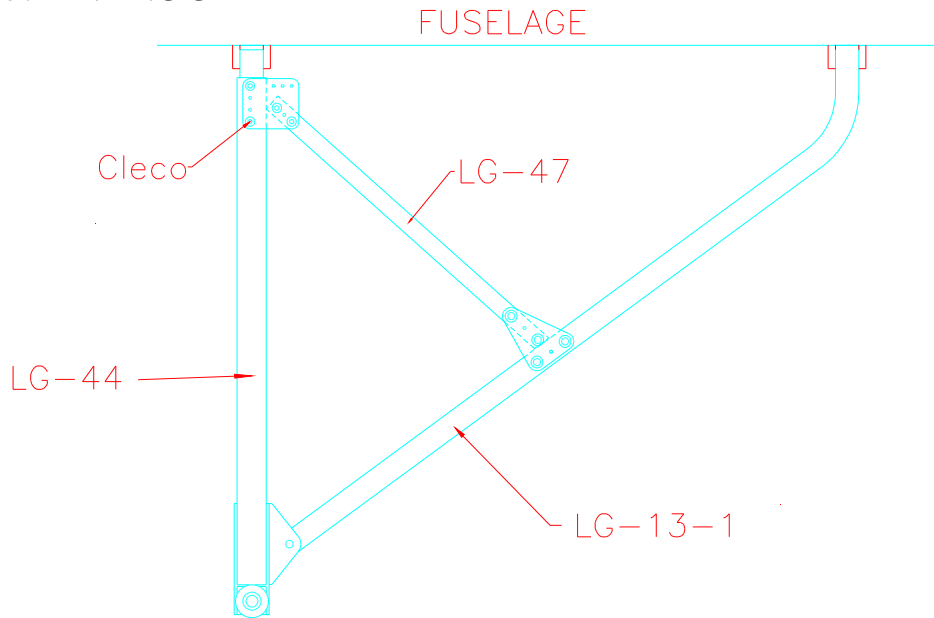

Figure 15.4.3
2) Gather two LG-47 and two LG-60 channels from the kit. Cut LG-47 to fit between the gear legs as shown in Figure 15.4.3
3) Using the gussets made in step 1 as a template, drill the holes to #30 into the gear legs and LG-47 channel. Cleco. Figure 15.4.3. Repeat for the back side.